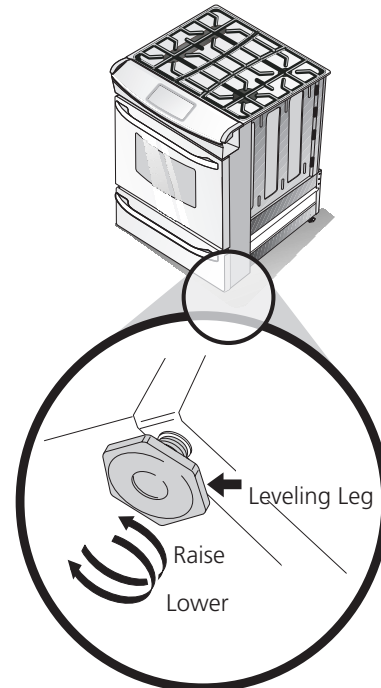

Figure 16
4. Level range if necessary, by adjusting 4 leg levelers with wrench. (See Figure 16 below.) A minimum clearance of 1/8" (0.8 cm) is required between the bottom of the range and the rear leg levelers to allow room for the anti-tip brackets.